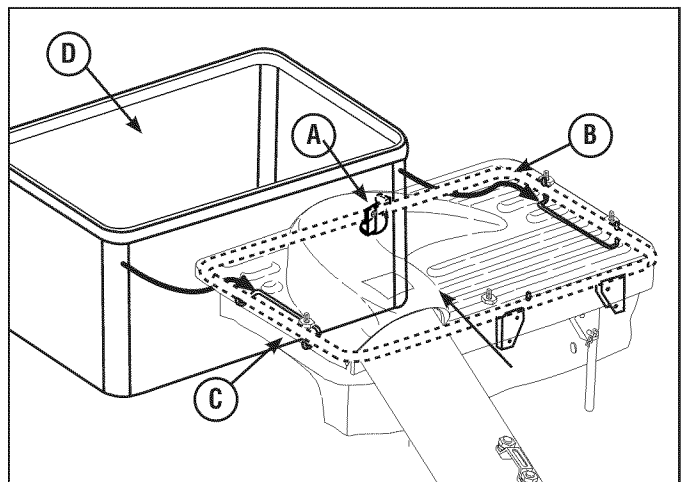

Figure 17
1. Rotate latch up (A, Figure 17) on catcher frame (B) to a horizontal position.
2. Slide grass bag assembly (C) into brackets (D) catcher frame